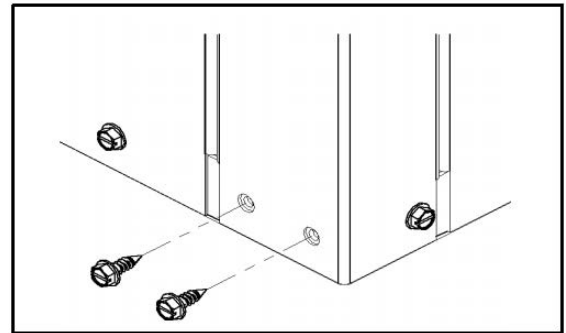

Fig. 4 — Removing Factory Screws
1. Remove and discard factory-provided screws from location where hanging brackets will be installed. (See Fig. 4.)